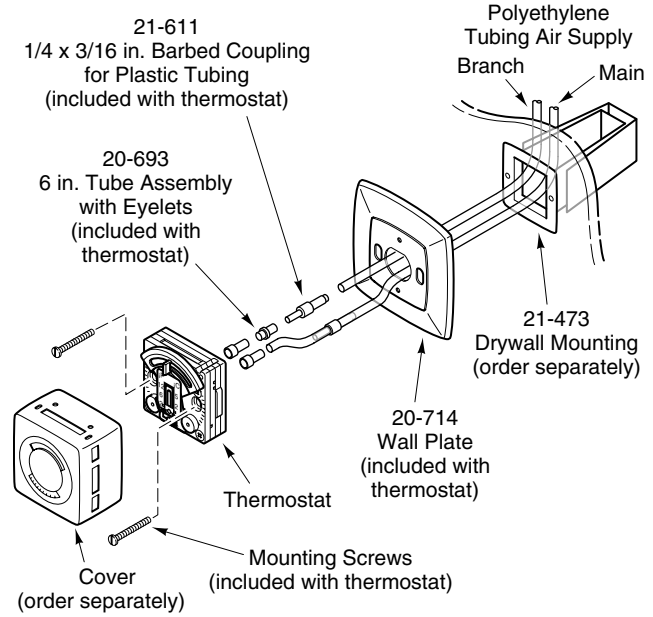

Figure-2 Flush Mounting of Thermostat, Using Drywall Mounting Bracket.
1. Mount the thermostat according to the applicable figure (Figure-2 through Figure-8). See Figure-11 for mounting dimensions.